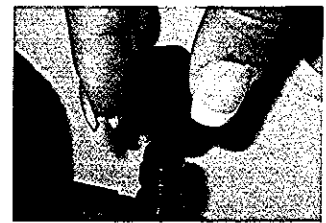

Figure 13
- e. Put the Air Inducer Cap back on, and tighten finger-tight only (See Fig. 13)